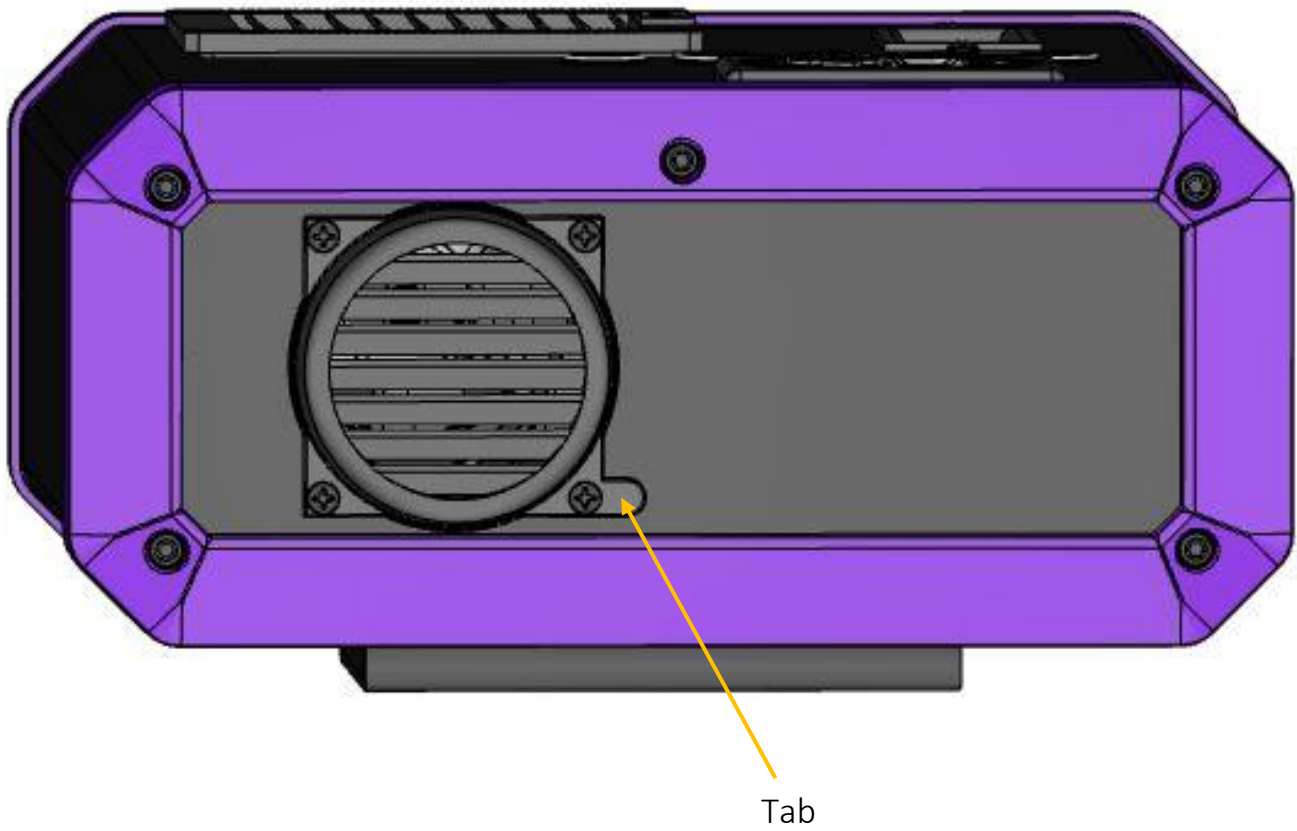

Fig 1F.
8. Replace the exhaust grill taking note of the alignment of the tab on the grill itself as shown in Fig 1F.